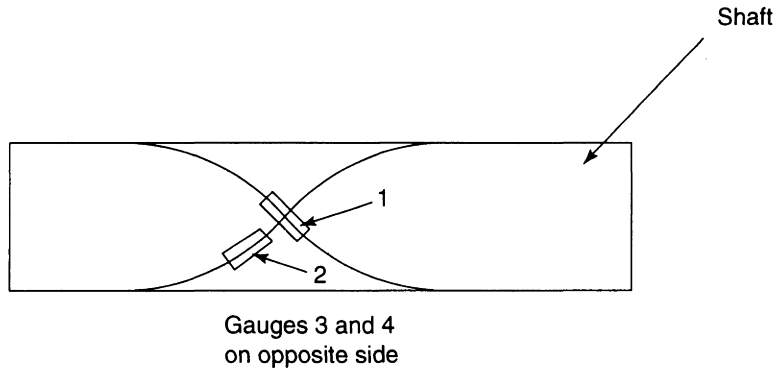

Figure 7.33 Torque cell
**Torque cells** operate in a similar manner. They are designed to convert torque into a corresponding deformation of a shaft. Again strain gauges can be used to measure deformation. This is much easier to do if the shaft is stationary. The electrical signal is difficult to transmit from a rotating shaft (Figure 7.33).